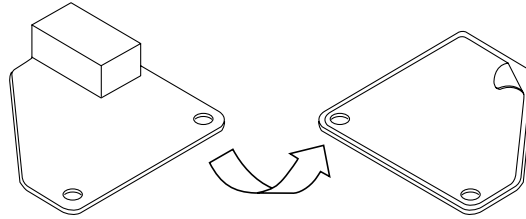

Figure 3-16 Peeling Off Backing Paper
- a. Peel off the paper backing from the foamblock spacer template as shown (Figure 3-16).